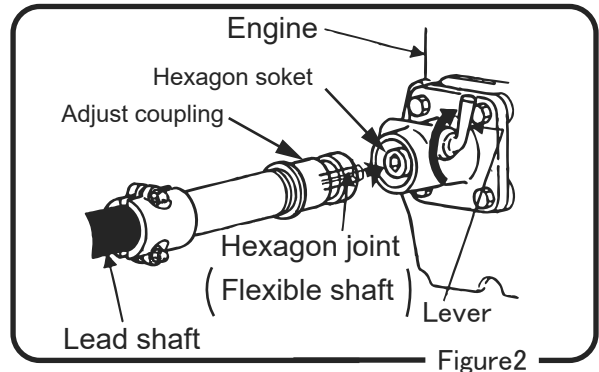

Figure2
8.1.1 Connect the shaft to the engine. To connect, turn the lever on the side surface of the engine's coupling part, then insert the hexagon joint of the flexible shaft and adjust coupling in the hexagon socket of the engine mount. Put the lever back to its original position. (Figure 2)